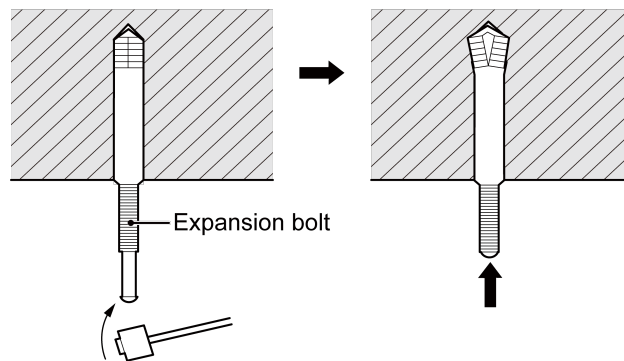

Fig.4.1.5
- 2) Insert the M10 expansion bolt into the hole and then knock the nail into the bolt, as shown in Fig.4.1.5, and then remove the paper pattern.